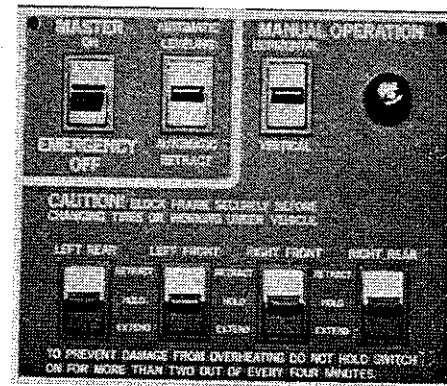

Figure 11-7. Automatic Leveling System Control Panel
4. **MASTER ON-EMERGENCY OFF Switch** (on leveling system control panel, figure 11-7) — Supplies power for the leveling system (in series with **LEVEL MASTER** switch). Turning this switch **OFF** stops the system from operating and automatically resets the microprocessor to the start position. When the **LEVEL MASTER** switch and this switch are **ON**, the red top of the switch will glow.